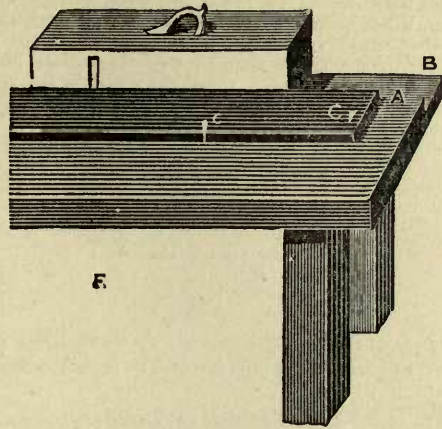

FIG. 44.
**Soil Pipe—Planing or Shooting the Edges.**—[Fig. 44.]
This is very important, and must be done with care. The plan shown at Fig 44. is very useful, and saves a lot of time; it can be made in a few minutes. I have never seen it used except by myself; therefore, I am inclined to think it original for shooting lead edges. The drawing shows the bench specially made. The edge A must be straight and fixed about 3/4in. above the fillet B, which should be smooth and not less than 2 1/2 in. wide. Fix the lead with two bradawls C C, as shown. Instead of the bradawl C in the centre, fix a lath for the planed side or edge. "Touch"